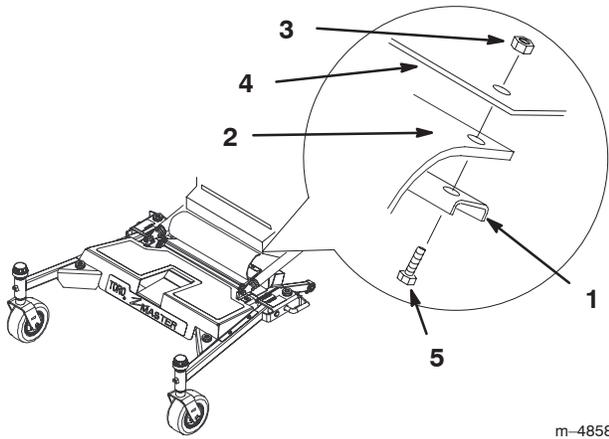

Figure 36
16. Install the rubber guard with bar, nuts and bolts under the motion control levers. (Fig. 36).